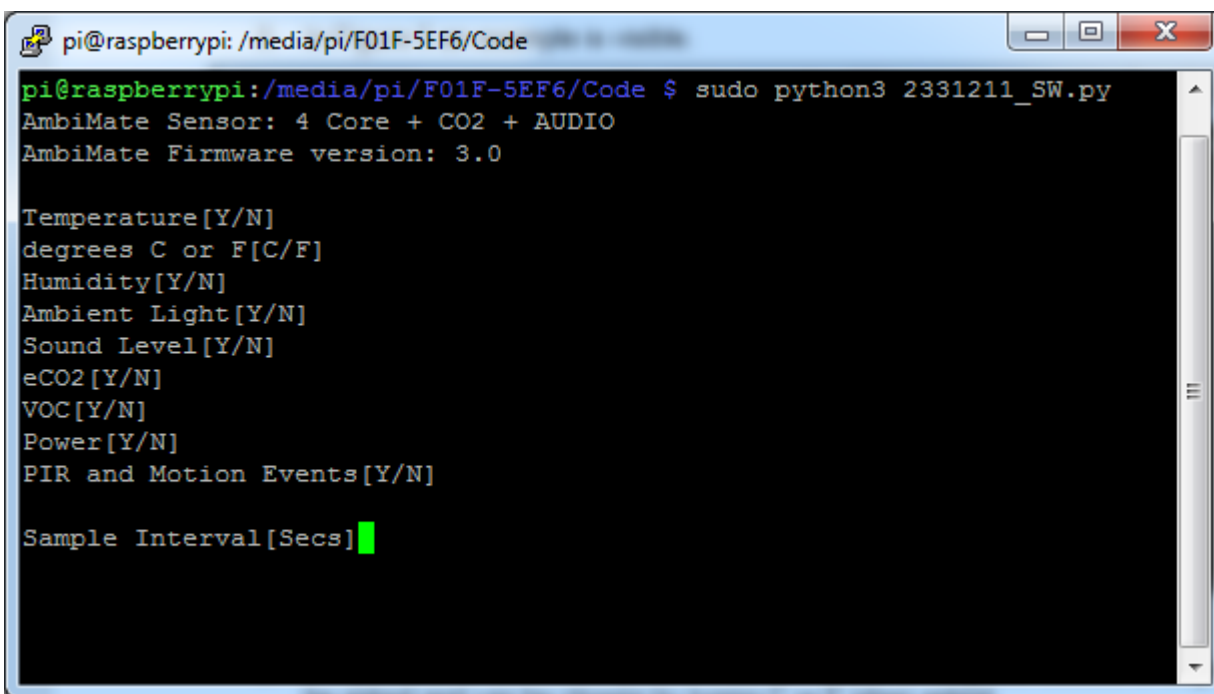

Figure 7: Example of sensor set
8. In Figure 7: Example of sensor set an example is visible.